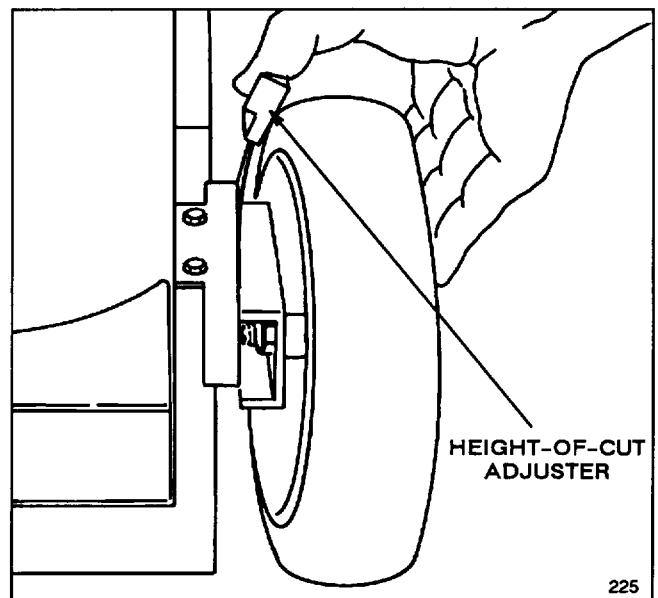

Figure 14
2. For easier adjustment, lift housing up so wheel is off ground. Do not place hands under deck to lift housing. Squeeze adjusting lever toward wheel (Fig. 14) and move it to the desired setting. Assure pin on adjusting lever engages notch in mower housing wear plate. Adjust all wheels to the same setting.